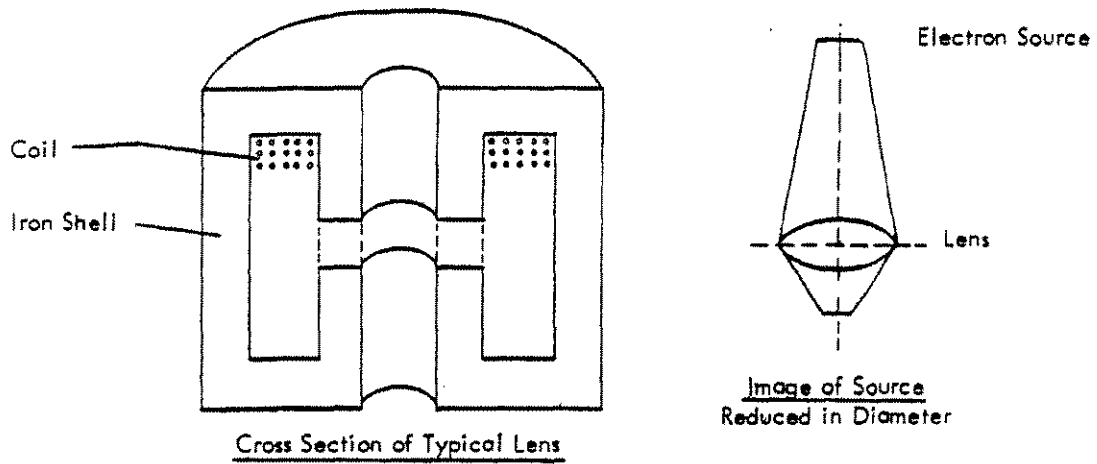

Figure 7.3
- Figure 7.3 The Lens
The column consists of three electromagnetic lenses acting on the electron beam. The action is very similar to that of a light source shining into a convex lens producing an image of smaller diameter than the original source (fig 7.3). The successive action of the three lenses produces the required diameter of beam to scan the specimen. Unlike optical lenses the SEM lenses can easily be changed in strength to produce any required beam diameter. This is done by changing the current flowing in the lens coil. The first two lenses (mechanically combined into a single unit in the S200) produce most of the beam demagnification while the third lens focuses the beam onto the sample surface.